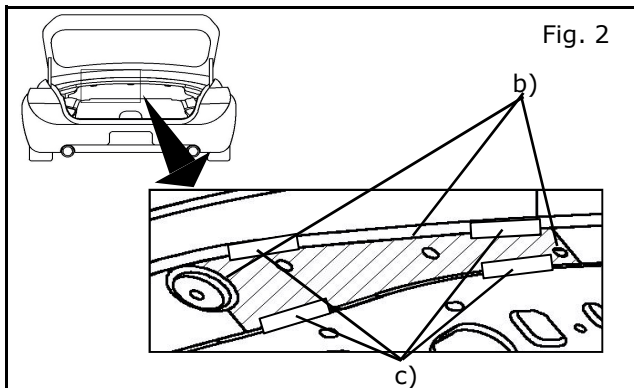

Fig. 2
- c) Tape template to sheet metal in (4) locations as indicated in Fig. 2.